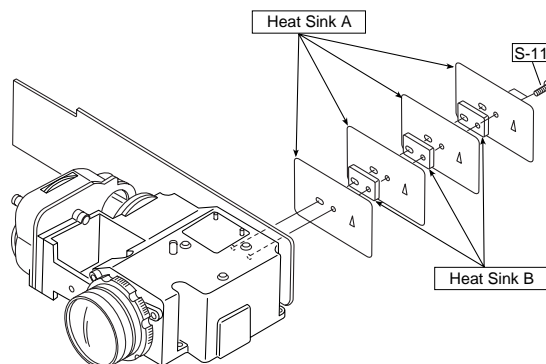

Fig. 9
- 9) Heat sink (See Fig. 9.)
Remove the two screws (S-11) shown in Fig. 9, and detach the heat sink.